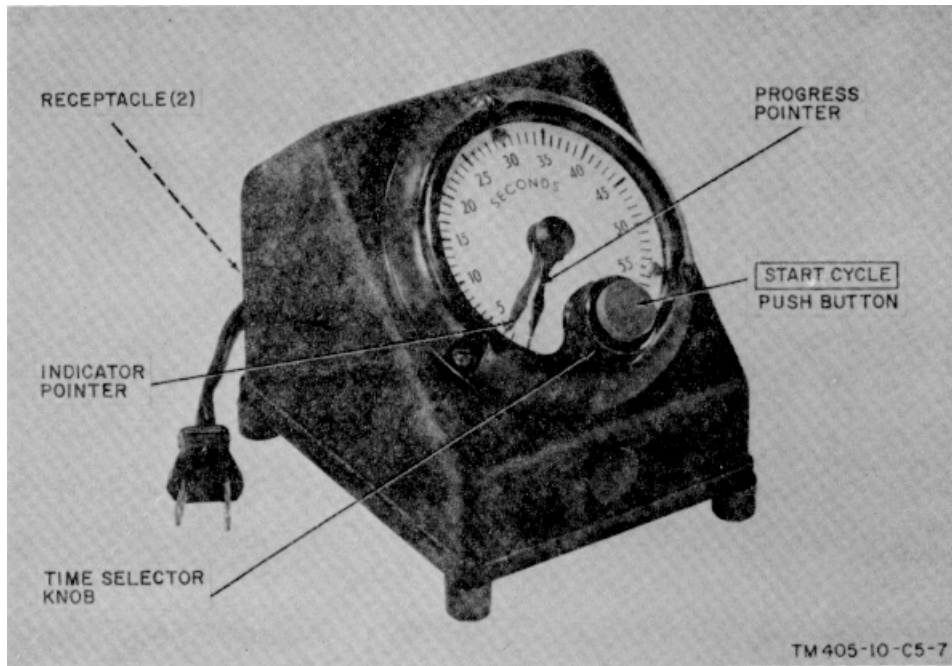

Figure 20.1. Interval Timer FN-5(2), front view.
d.1. Interval Timer FN-5(2) (fig. 20.1).